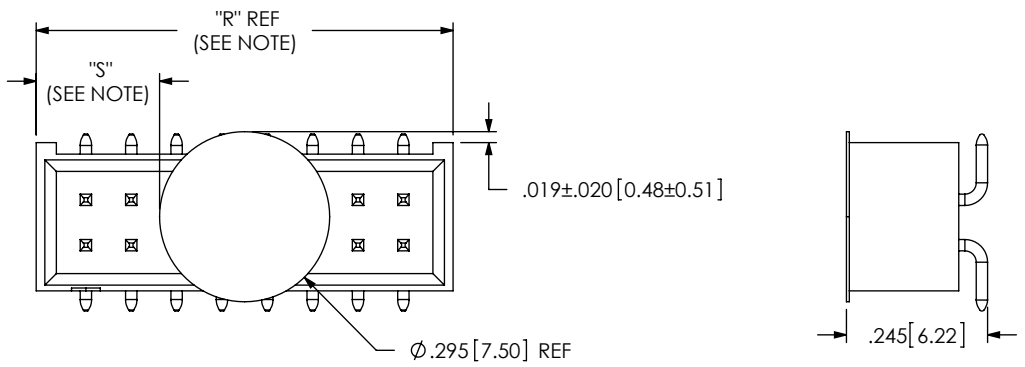

FIG 6
-K: POLYIMIDE FILM (USE K-DOT-.295-.406-.005) (SEE FIG 6, SHT 3) (-SM OPTION ONLY)